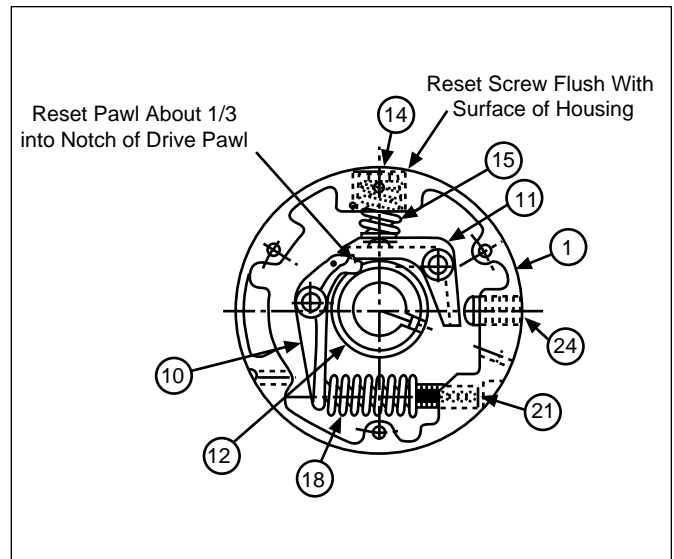

FIGURE 17
1. If clutch is manual reset, install the reset screw (24) from the inside of the housing turning counterclockwise until the reset screw pin stops the screw from turning.
2. Press the long end of rotor (12) into housing bearing (2).
3. This step is for manual reset only. Go to next step for automatic reset. Install the drive pawl (10) into the appropriate hole in the housing (1), and the reset pawl (11) into its appropriate hole in the housing. Check the fit of the reset pawl into the notch of the drive pawl with the clutch disengaged. The reset pawl should fit approximately one-third of the way into the notch. Grinding the nose of the reset pawl may be necessary to obtain the proper fit (see Figure 17).
4. Remove the drive pawl (10). The drive pawl and the drive spring (18) will have to be installed simultaneously. If a drastic change in torque is desired, use this step to change the drive spring. Place one end of the drive spring over the drive spring thrust washer (22). Insert the knob of the drive pawl into the other end of the drive spring. Insert the trunnion of the drive pawl into the hardened bushing in the housing, while the nose of the drive pawl fits into the notch of the rotor (12).
6. Insert the reset spring disc (15) inside the reset spring screw (14). Apply grease to the surface of the disc.
7. If a drastic change in torque is desired, use this step to change the reset spring. Place the reset spring (19) on the surface of the reset spring disc. Apply grease to the end of the ball thrust (20) and insert ball thrust into the reset spring.
8. Apply grease to the threads of the reset spring screw (14) and insert the assembly of the reset spring screw, reset spring disc (15), reset spring (19), and ball thrust (20) through the hole stamped 9 on the housing. Tighten the reset spring screw until it is flush with the surface of the housing (Figure 17).